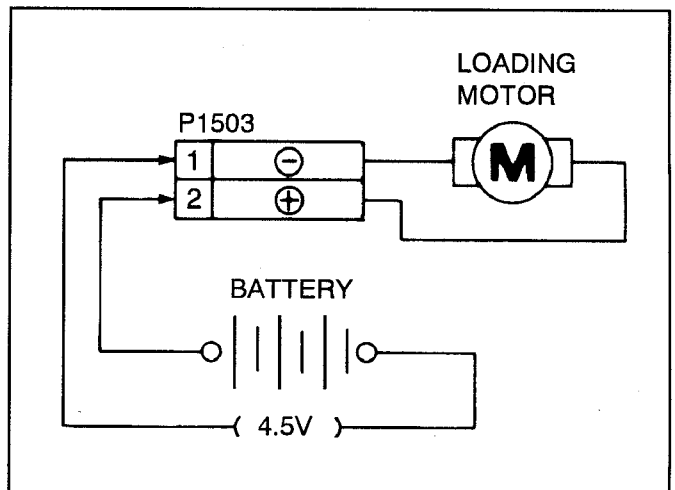

Fig. S11
- 2) Connect the Battery (Manganese-Type R6 (AA) 3pcs./+4.5V) to the LOADING MOTOR terminals as shown in Fig.S11.